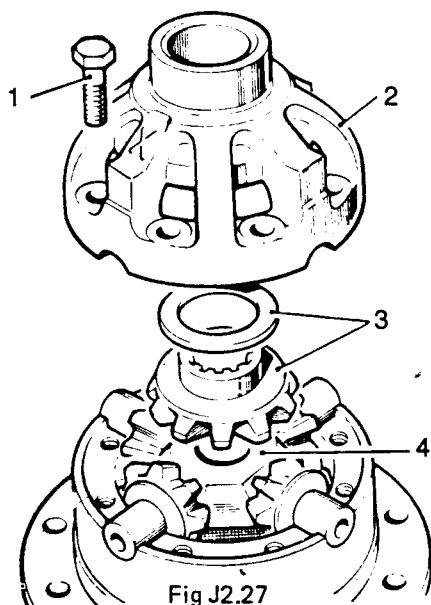

Fig J2.27
- (3) Refer to Fig J2.27. Refit the cross shaft and pinions (4).
- (4) Replace the upper differential wheel and thrust washer (3).
- (5) Align the markings on the two differential casings. Place the upper casing (2) in position.
- (6) Smear the threads of the fixing bolts (1) with Lockite Studlock. Fit the bolts and tighten diagonally to 91 to 104 N.m.